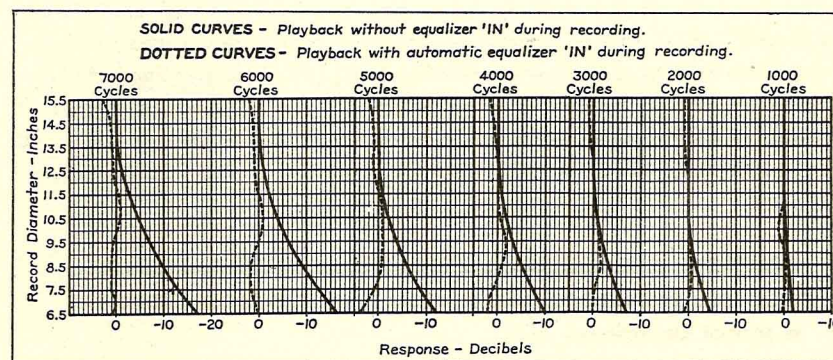

Figure 6. Playback frequency response at different disc diameters.
(1) **Adjustment for Deeper Groove.** Turn the tension-adjusting nut (28) counterclockwise.
(2) **Adjustment for Shallower Groove.** Turn the tension-adjusting nut (28) clockwise.
**c. Using the Automatic Equalizer.** Equalization is not recommended for 78 rpm recordings. On 33 1/3 rpm the higher frequencies are attenuated because of the decrease in linear velocity of the disc under the cutter needle. It is therefore necessary to equalize for the loss. (Playback curves at different frequencies before and after automatic equalization at different record diameters are shown in figure 6.) This is accomplished as follows: